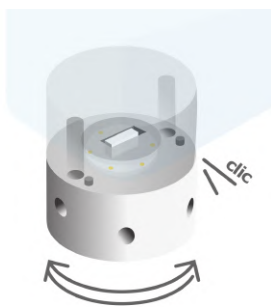

FIGURE 4.17 – Turn the valve until the pins are aligned
5. Turn the valve until the pins of the valve are aligned with the matching bores on the pump (see Figure 4.17).